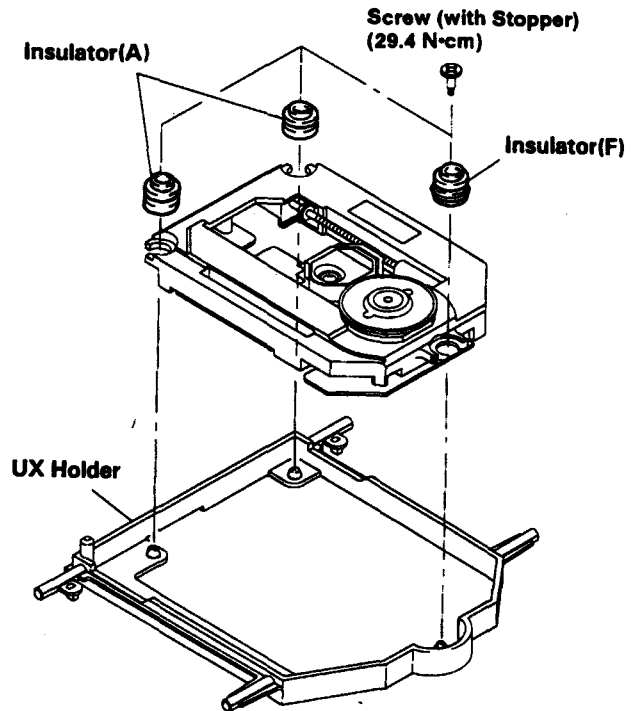

Fig. 4-5 (e) Optical Device Replacement
g. Stand Optical Device Ass'y vertically as shown in Fig. 4-5 (d). The ass'y can be taken out from the drive.